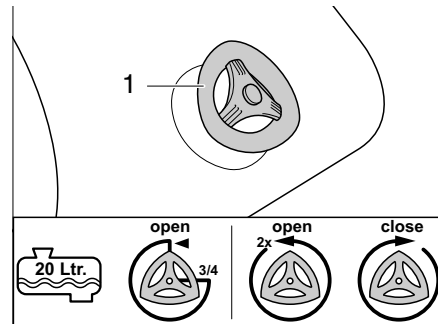

Fig. 351 Drain cock
- 1/2 full or less: Turn the drain cock (Fig. 351,1) 3/4 of a rotation anti-clockwise. The water drains off.
- 3/4 full and more: Turn the drain cock (Fig. 351,1) 2 rotations anti-clockwise. The water drains off.
- Close the drain cock (Fig. 351,1) clockwise.